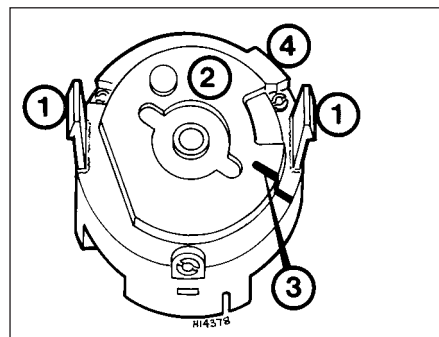

Fig. 4.16 Typical ignition switch (Sec 12)
6 Using a screwdriver depress the retaining tabs (1) (Fig. 4.16) and release the ignition switch.